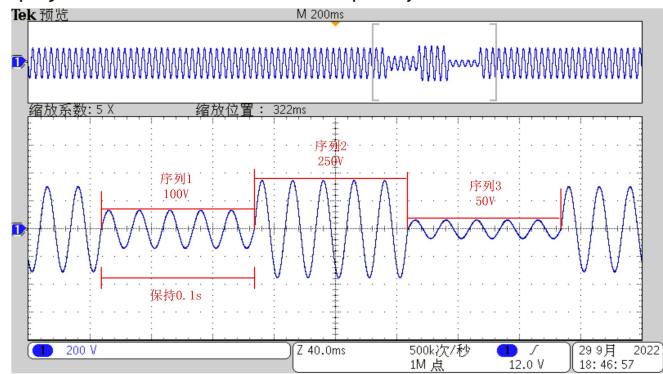

Figure 65 List Programming Waveform Example Diagram 1
- 4) Click 'Trigger' to display the programmed waveform on the oscilloscope (only the $\Phi 1$ waveform is shown here); see Figure 65.